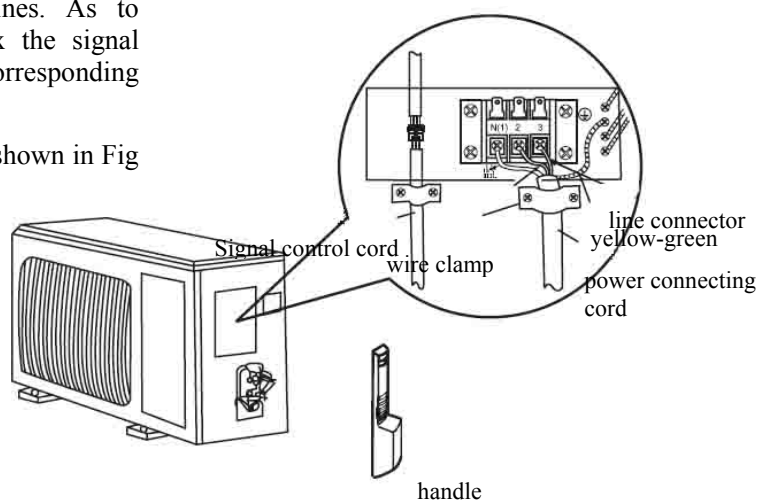

Fig 11-8
- Ensure that wire had been fixed firmly. (as shown in Fig 11-8)